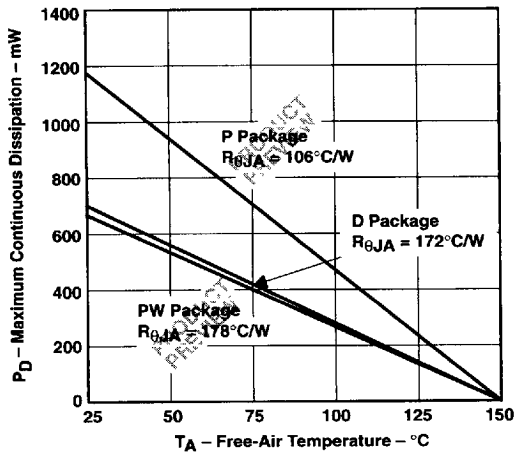

Figure 3
**DISSIPATION RATING TABLE 1 – FREE-AIR TEMPERATURE (see Figure 3)**